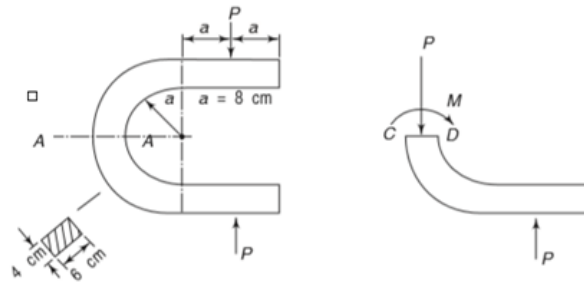

Figure 3
3. (a) Determine the maximum tensile and maximum compressive stresses across the sec. AA of the member loaded, as shown in figure 3 load  $P = 19620 \text{ N}$  [7M]